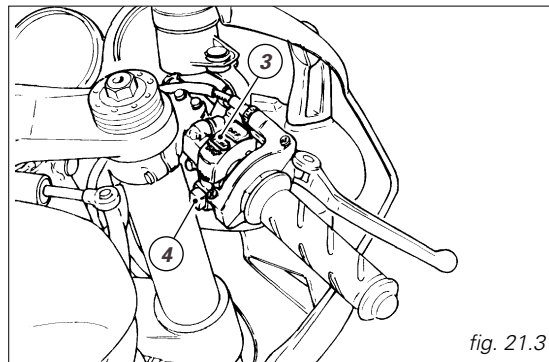

fig. 21.3
3) Check that the stop switch (3, fig. 21.3) is positioned to **○ (RUN)**, then press the ignition button (4).